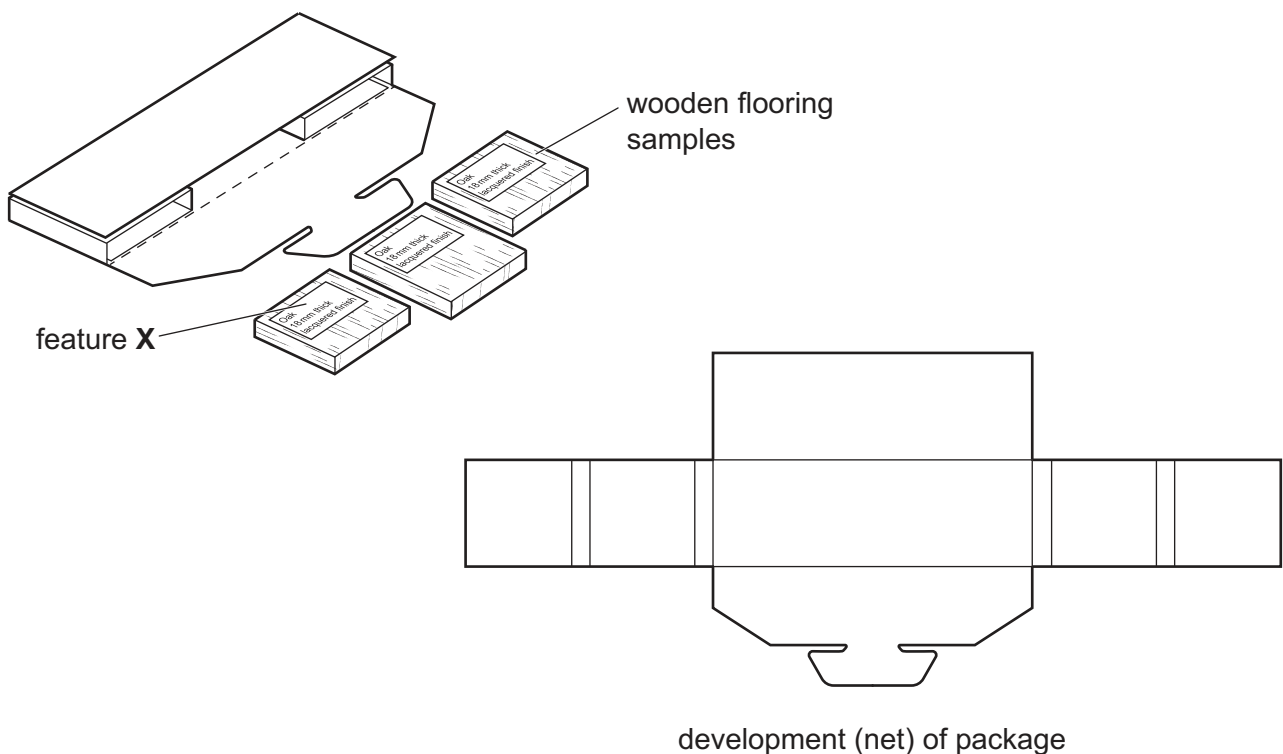

Fig. 5.1
- 5 Fig. 5.1 shows an incomplete design for a package that is to be used to post samples of wooden flooring to customers.